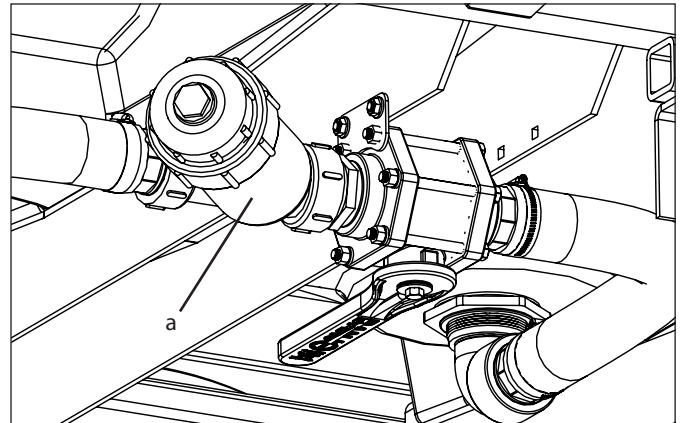

Figure 7: In-line Suction Filter
3. Excess water can be drained by removing the bowl of the in-line suction filter (a) located below the tank (Figure 7).